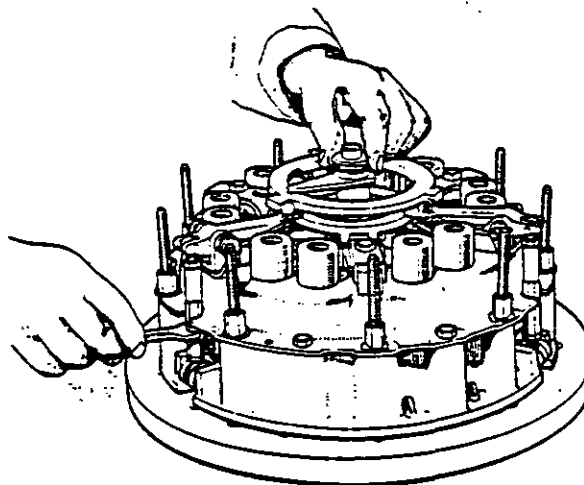

Figure 28. SETTING PTO RELEASE LEVER HEIGHT
11. Remove actuator, screw centre pillar into adaptor and fit spacer, Code 16X (some early spacers were marked "Code 16" only), on pillar — recess in spacer towards adaptor. Fit the long setting finger on centre pillar and set the three toggles so that when setting finger is rotated, whilst being held firmly and squarely against spacer, it just touches the lever plate all the way round. (Fig. 28.) When the lever setting is correct, lock toggles by firmly tightening all six locknuts.